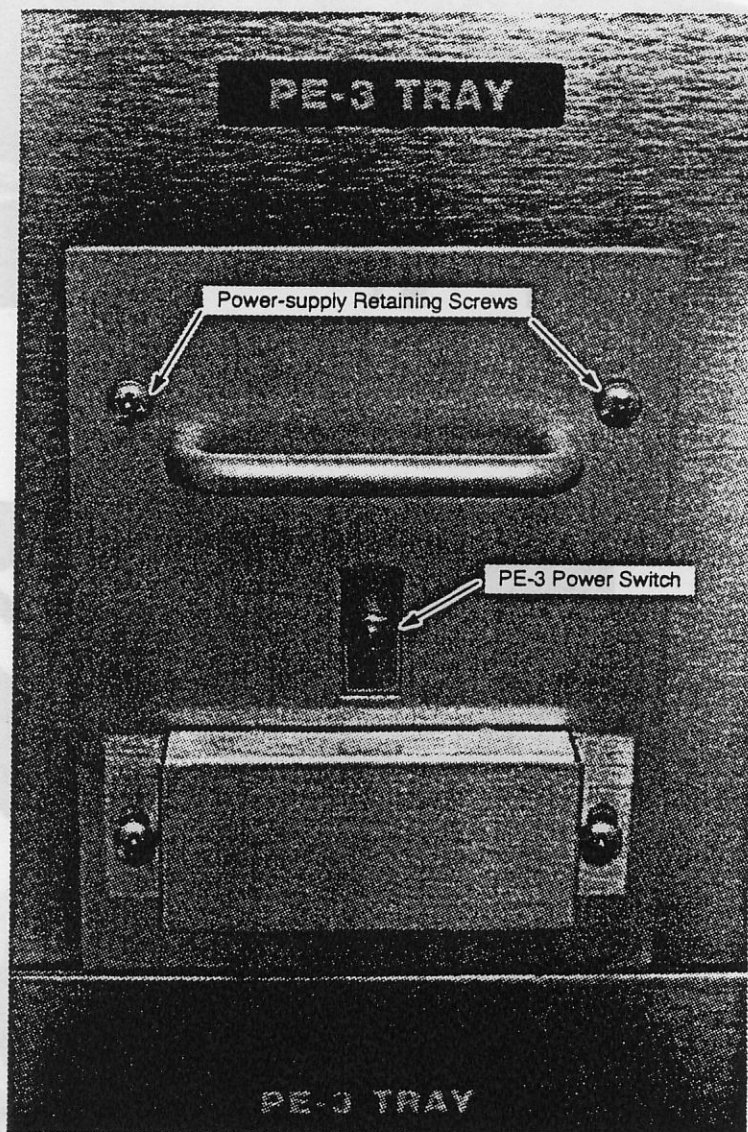

Figure 7-40. PE-3 Drawer
4. Remove the four tray-retaining screws. Refer to Figure 7-40.